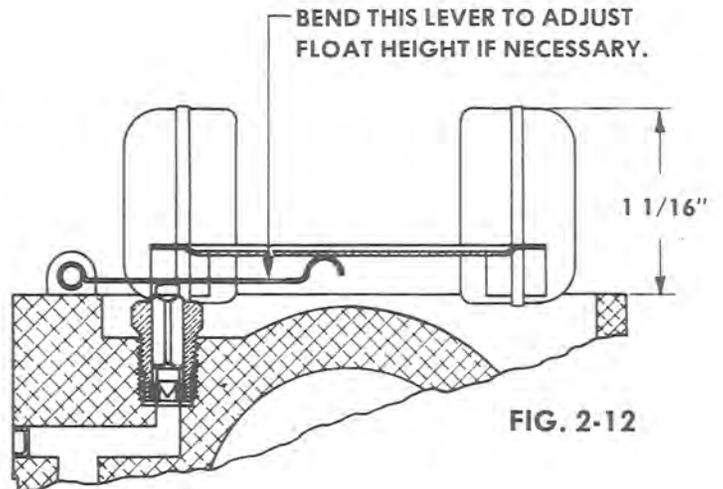
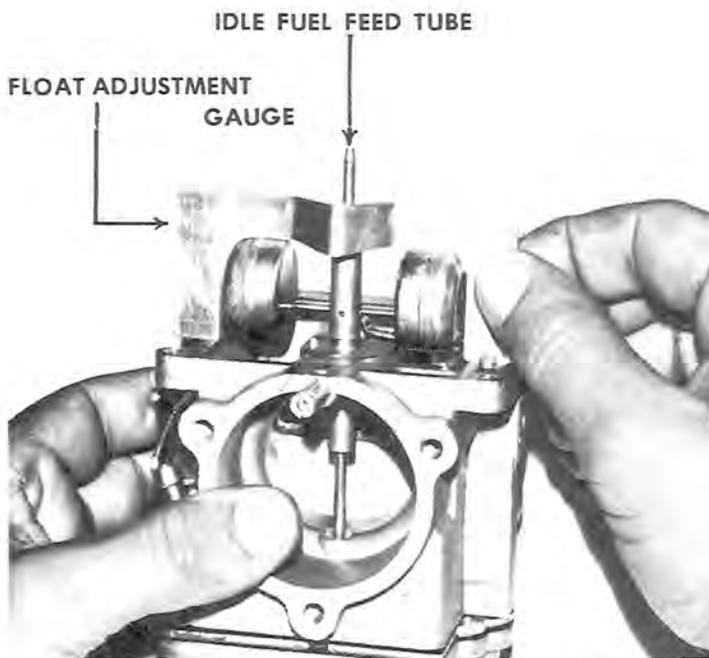

FIG. 2-12
FIG. 2-13
(Also see FIG. 2-13)
3. **FLOAT** - With fuel bowl removed, and float assembly in place, turn the body casting upside-down so that float assembly is at top. Sight along uppermost surface of float and adjust by bending **metering** lever so that top surface of float is $1 \frac{1}{16}$ " above body casting surface. (See FIG. 2-12) Adjustment may also be accomplished using the special tool available for this purpose. (See FIG. 2-13)